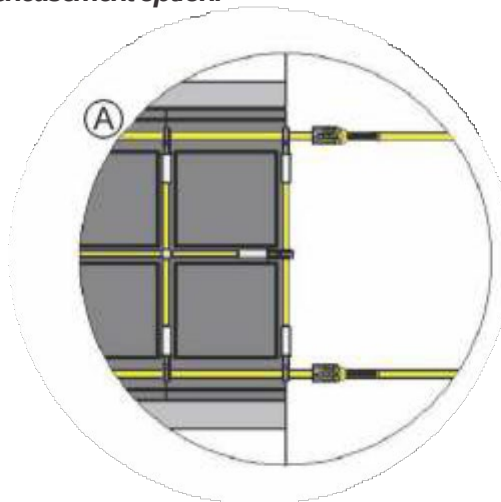

Figure 10
*Shown below is the detail involved with adjusting the net tension to ensure the net rests centered in the grooves of the net pad when it is in the down position as shown in Figure 10.*
*Move the net pad (A) right or left or adjust turnbuckles to center the net in the grooves as shown in Figure 10. The net is shown without the net encasement option.*